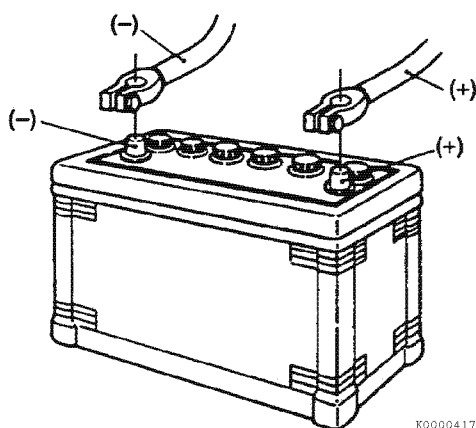

Figure 7-6
1. Connect the cable clamp on the red battery cable to the positive (+) battery post (Figure 7-6).
2. Connect the cable clamp on the black battery cable to the negative (–) battery post (Figure 7-6).